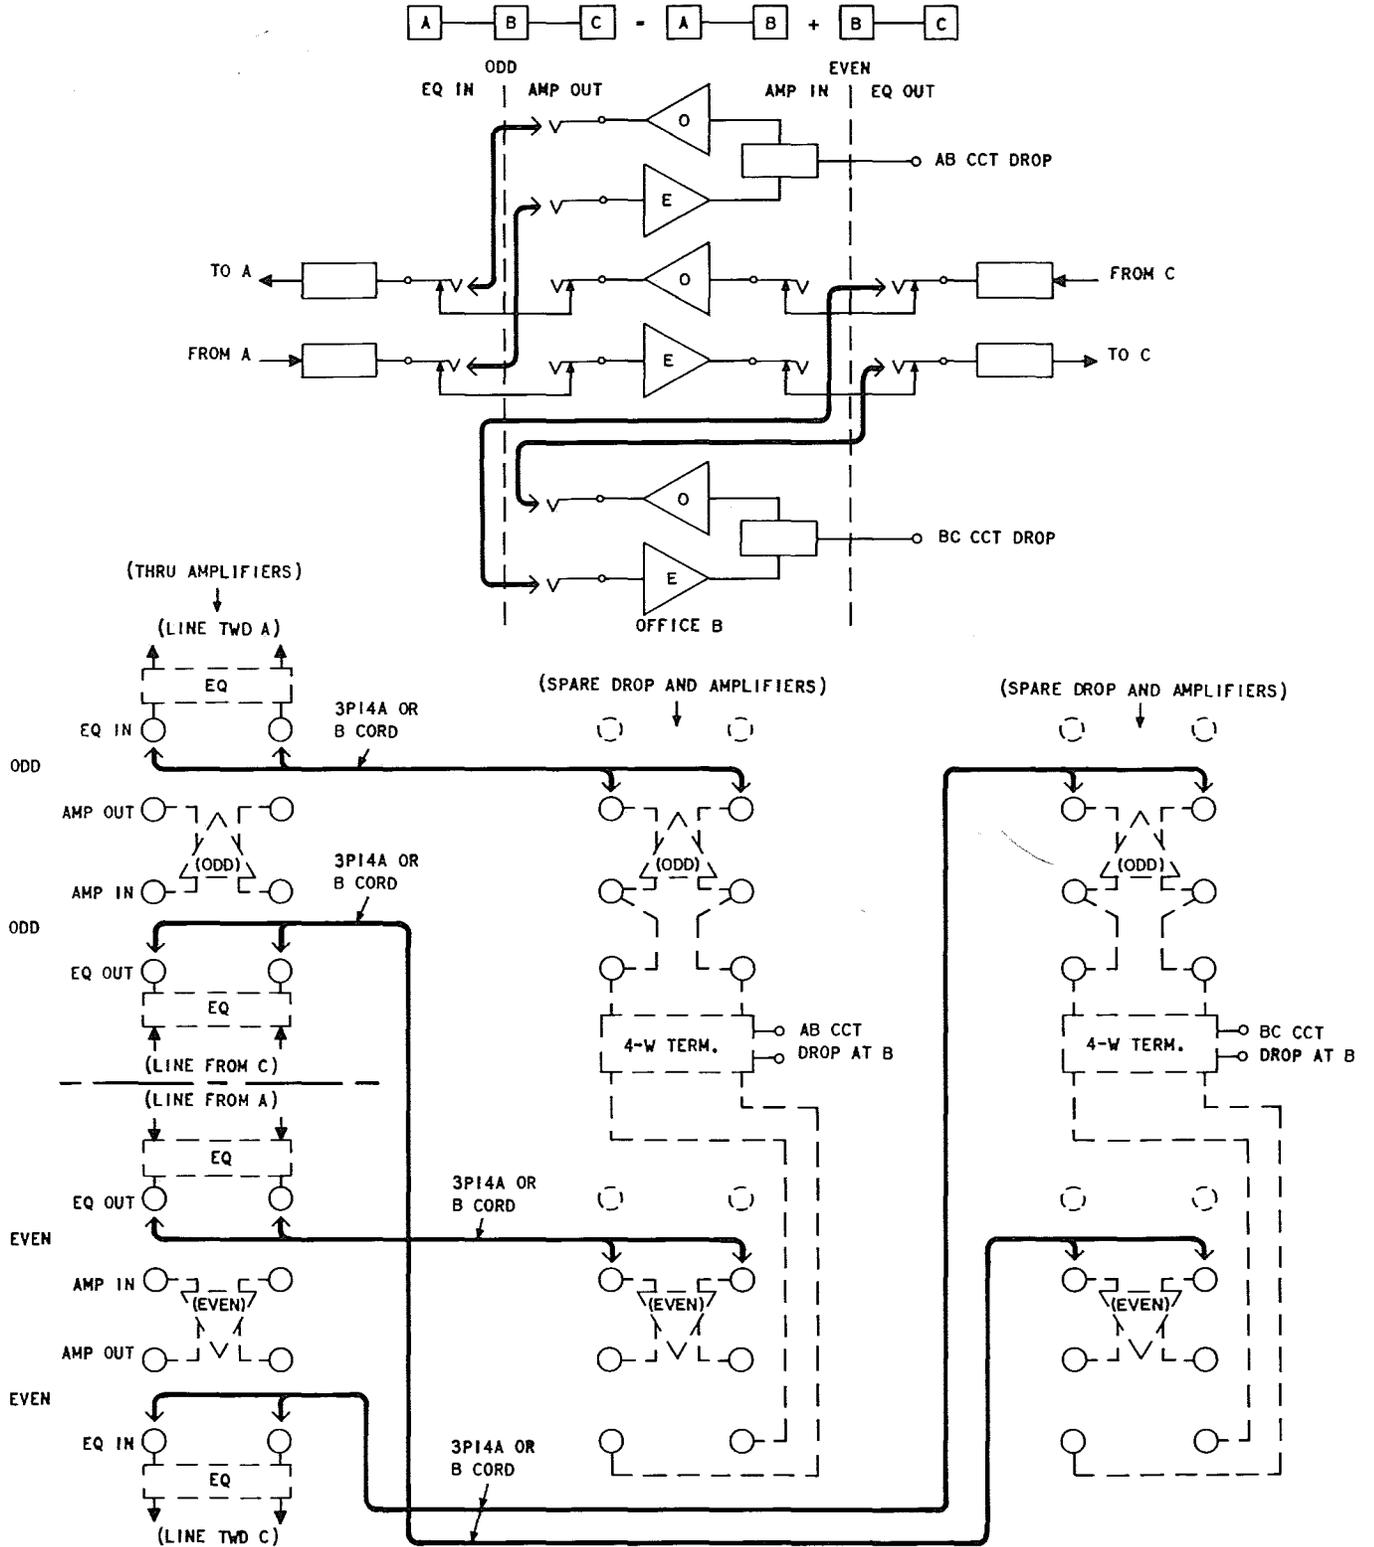
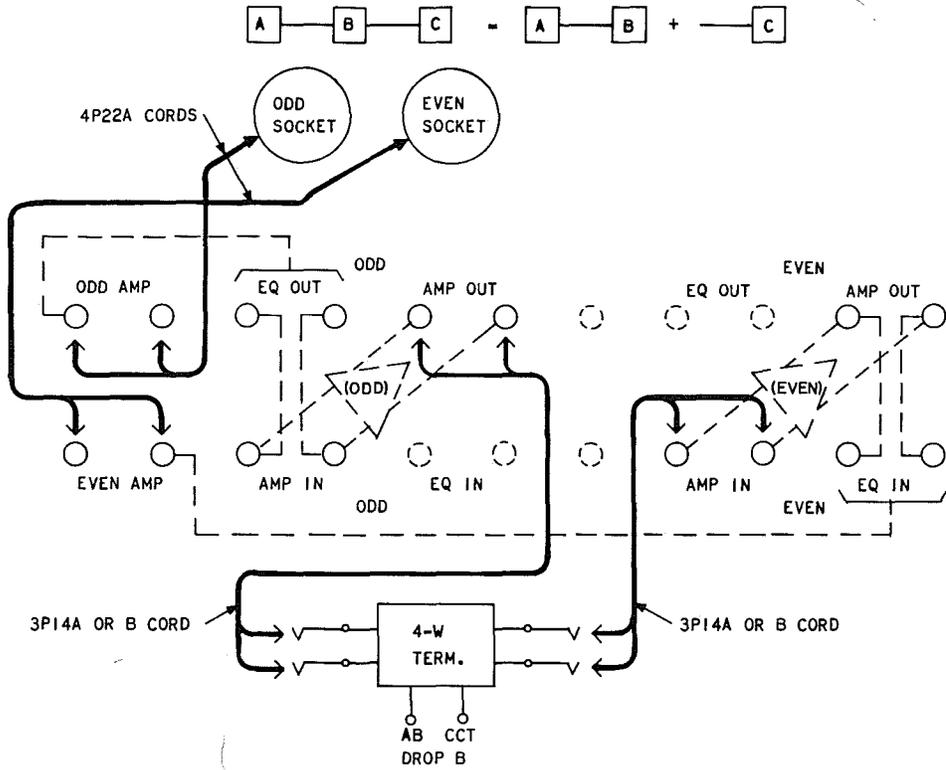

Fig. 6—Patching at Office B to Provide Two Terminating Circuits From One Through Circuit—Complete Repeater Jack Field
Fig. 7—Patching at Office B to Provide One Terminating Circuit From One Through Circuit—Using Auxiliary Test Panel and Associated Jacks
through circuit. The choice between the two figures is dependent upon whether the particular amplifiers have an associated jack field or if it is necessary to set up the patching arrangement through the use of the auxiliary test panel and its associated jacks. Figure 6 applies where the complete repeater jack field is available, and Fig. 7 applies where the patch is made through the auxiliary test panel and its jack field.
4.03 Figures 6 and 7 illustrate how to derive one or two terminating circuits from one
4.04 Where 482A jacks are furnished in the repeater jack field shown in Fig. 6, the patch cords used are to be 3P14A or 3P14B (P3E cords equipped with 291B type plugs) or equivalent.